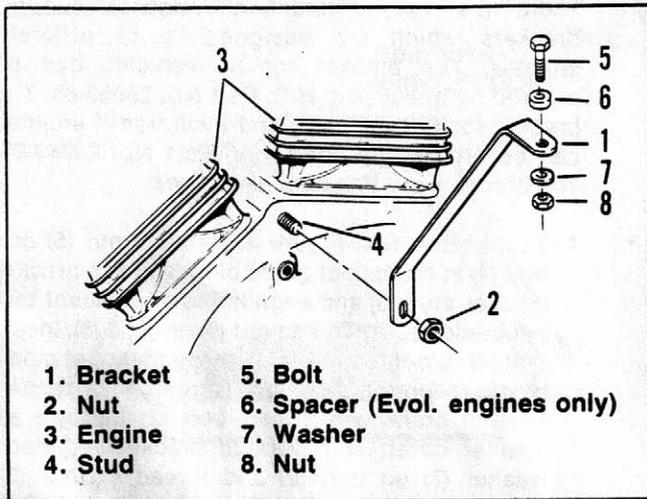

Figure 5. Bracket Mounting — Shovelhead & Evolution™
- B. Evolution[™] and Shovelhead[®] Engines — See Figure 5. Remove nut (2). Place slotted end of bracket (1) over stud (4) and thread nut (2) on stud (4). Insert bolt (5) through air cleaner cover, spacer (6) (Evolution engines only), and through bracket (1). Place washer (7) on bolt (5) and thread on nut (8). Tighten nut (8) to a torque of 6 ft. lbs. and nut (2) to a torque of 12-15 ft. lbs.